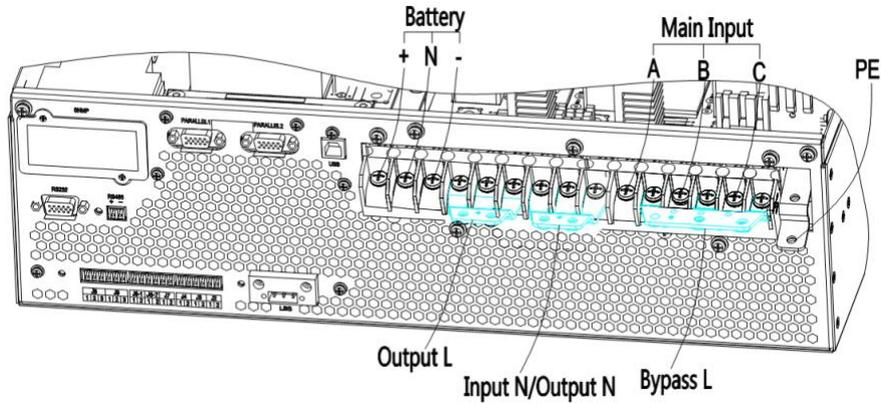

Fig. 2-19 3-phase in and 1 phase out, dual input
2. As shown in Figure 2-19, short-circuit bA, bB and bC with No.5 copper bar; short-circuit oN, bN and mN with No.7 copper bar; short-circuit oA, oB and oC with No.4 copper bar.